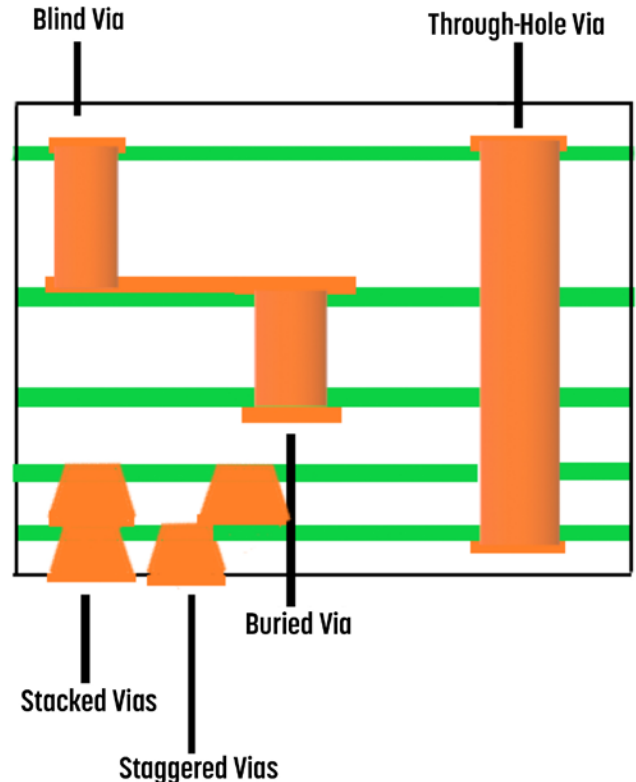

Figure 3: Types of vias.
Here, I'll detail a variety of via types, including (1) through-hole vias, (2) blind vias, (3) buried vias, and (4) stacked and staggered vias (Figure 3).